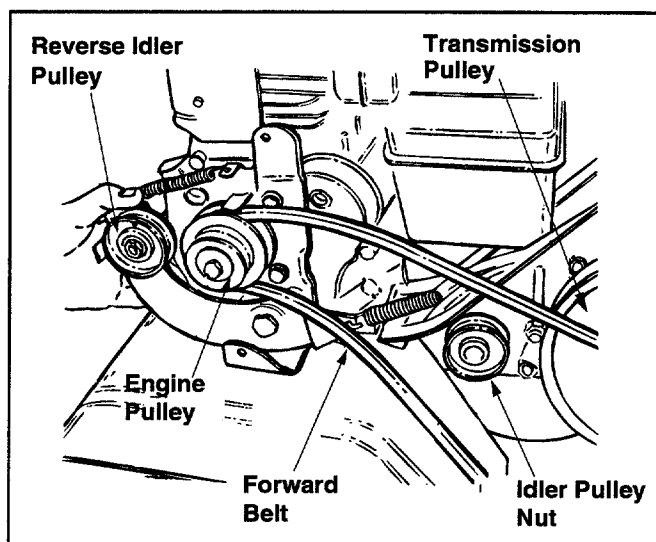

Figure 15
- Remove the belt keeper from the idler pulley by removing the idler pulley nut. See Figure 15.